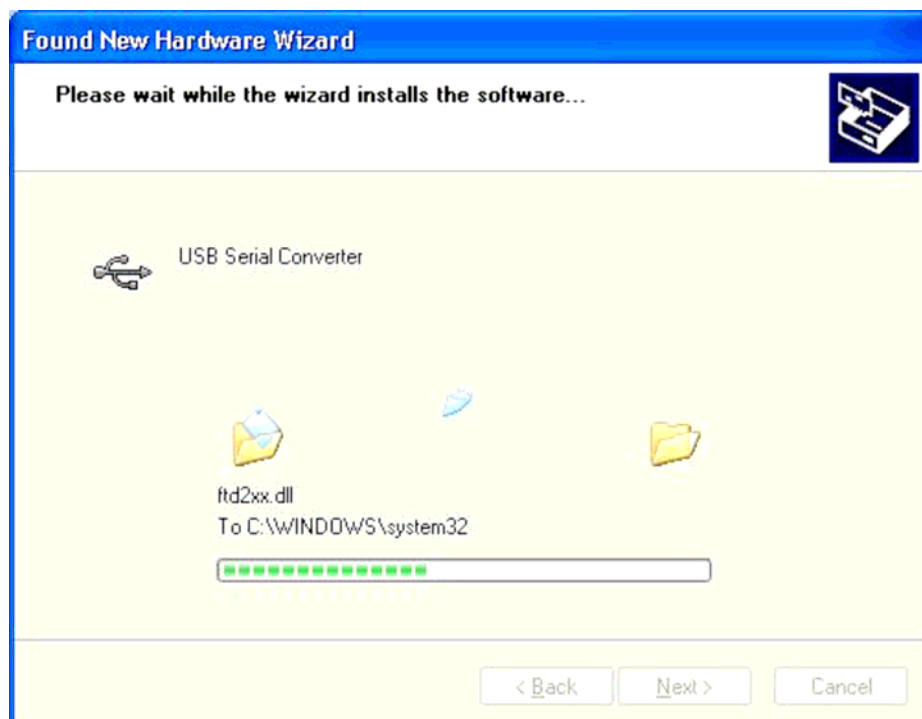

Figure 2.5
- The screen shown in Figure 2.5 will be displayed as Windows XP copies the required driver files. Windows should then display a message indicating that the installation was successful. Click "Finish" to complete the installation for the first port of the device.